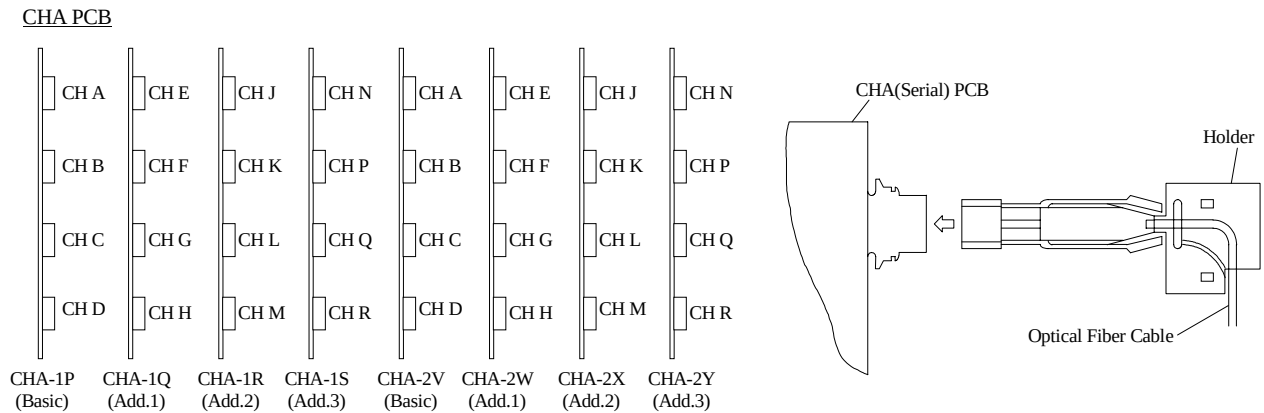

Fig. 3.8.1-4 Connection of Optical Fiber Cable
- Fix the cable to base and attach the cable clamp and bracket referring to Fig. 3.8.1-3.